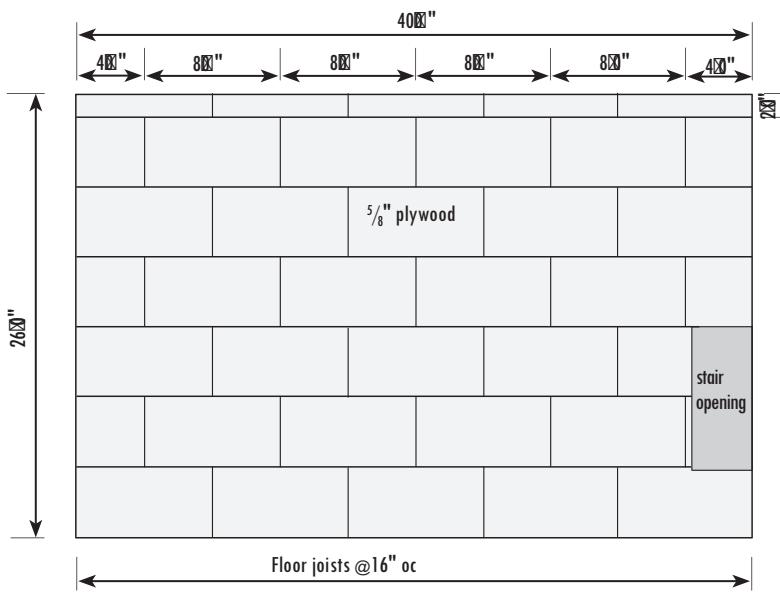

Figure 6-14
Next we'll find how many pieces of 4 x 8 plywood we need for the second floor of our sample house, shown in Figure 6-14.
Records show that it took 118 manhours to lay a 1,360 square feet second-story subfloor. Estimate the manhours (X) to install the same type of subfloor system in the second floor of the house shown in Figure 6-14, with 1,040 square feet.